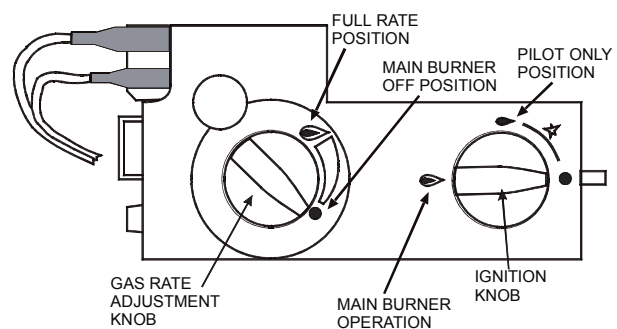

Figure 6 - Gas Valve
5. **Turn the IGNITION KNOB anticlockwise to the Main Burner Operation position as shown in Figure 6.**